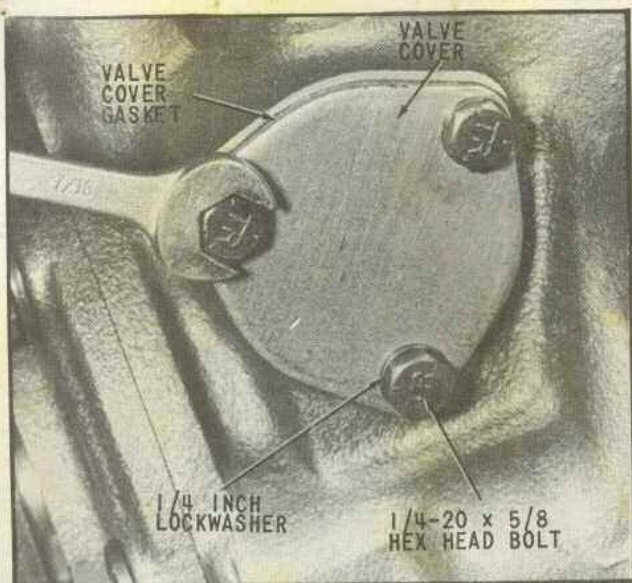

Fig. 74 Assembly of Valve Cover
75. Assemble the valve cover gasket, valve cover, lockwashers and hex head bolts as indicated in (Fig. 74). Torque hex head bolts to 8-11 pounds-feet.
1. Unscrew three (3) hex head bolts, remove valve cover and gasket, as shown in (Fig. 74). Discard valve cover, gasket, hex head bolts and lockwashers.